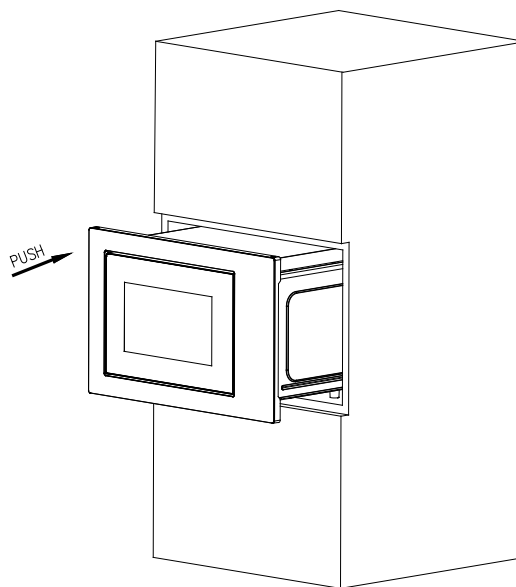

Fig.1
- a) Put the microwave oven into built-in cabinet and push it forward to the end. (Fig.1)